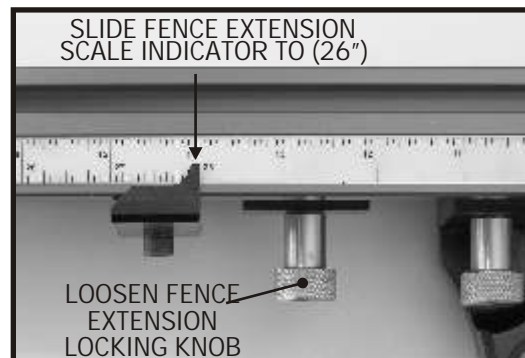

FIG. 9
9. Loosen the fence extension locking knob. Adjust the fence extension bar so the right side of the fence extension scale indicator lines up with the 26 inch mark on the fence scale. Re-tighten the fence extension locking knob (Fig. 9).